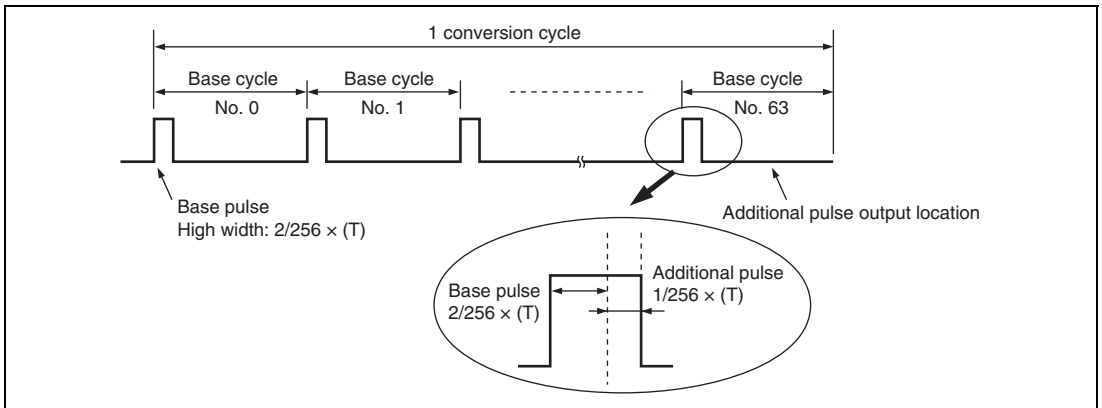

Figure 9.6 Output Waveform when DADR = H'0207 (OS = 1)
In this example, DADR = H'0207 (B'0000 0010 0000 0111). The output waveform is shown in figure 9.6. Since CFS = 1 and the value of the upper eight bits is B'0000 0010, the high width of the base pulse duty cycle is 2/256 × (T).